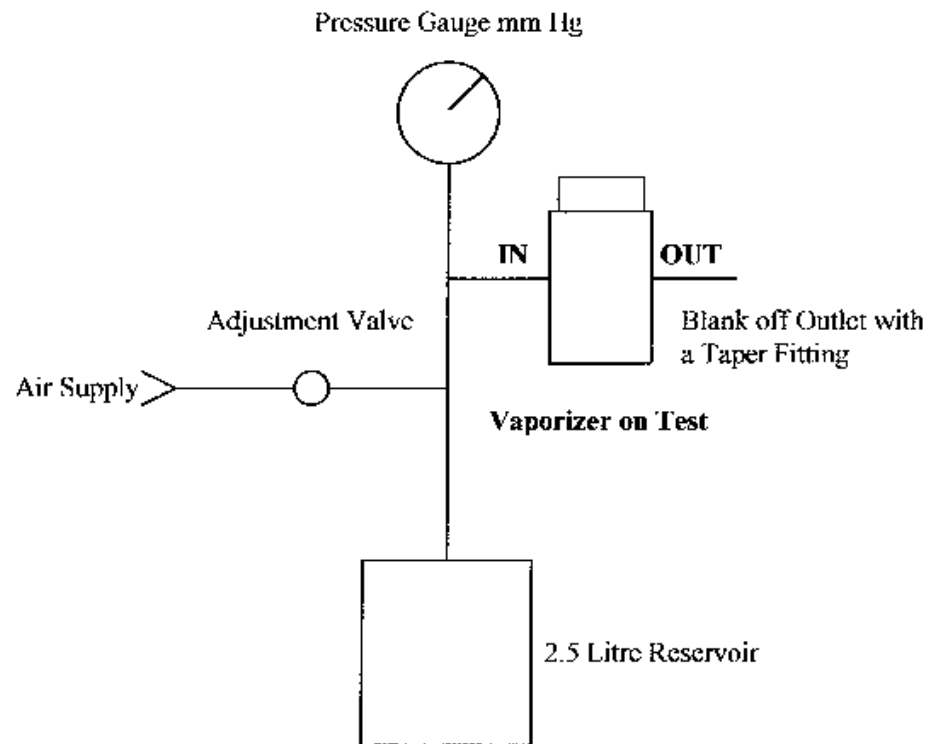

FIGURE 1
- 1) Connect Vaporizer into Leak Test circuit (Figure 1).
Connect the vaporizer into the test circuit as shown in Figure 1.